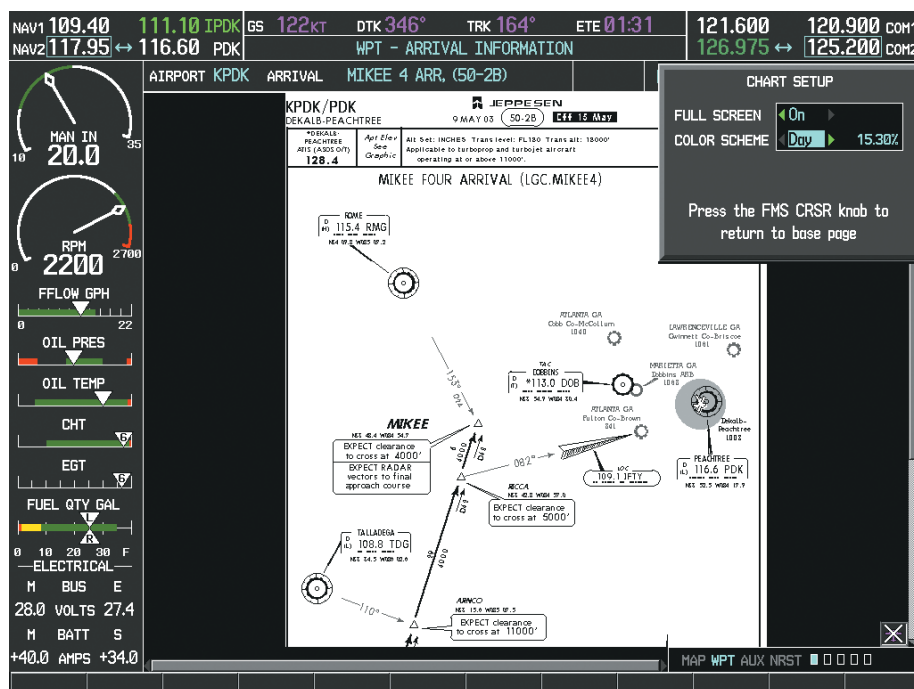

Figure 8-43 Arrival Information Page, Day View
- 3) Turn the large **FMS** Knob to move to the COLOR SCHEME Option (Figure 8-43).